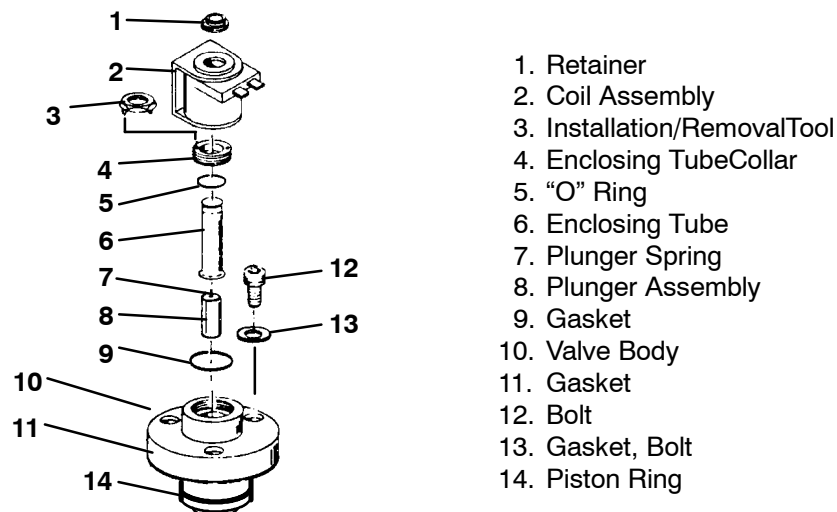

Figure 8-19. Unloader Solenoid Valve
1. Disconnect leads. Remove retainer. Lift off coil. (See Figure 8-19)
c. Replacing Solenoid Valve Internal Parts (See Figure 8-19)
3. Remove enclosing tube collar (item 4, Figure 8-19) using installation/removal tool supplied with repair kit (item 3).